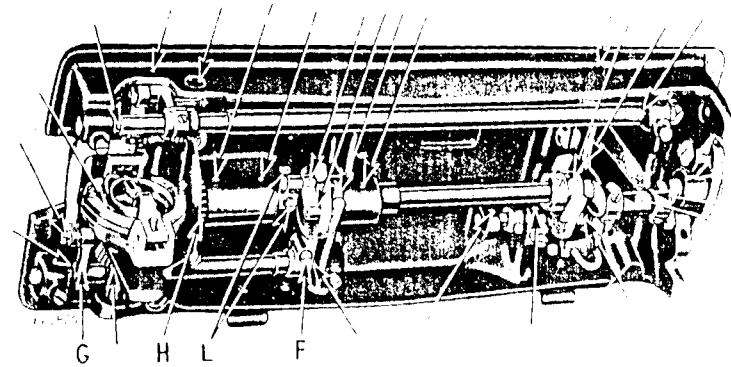

Fig. 4. Oiling Points Underneath Machine
Tip the machine back and turn the machine pulley toward you until the feed dog is at its highest position; loosen screw **F**, see **Fig. 4**, move rock shaft **G**, **Fig. 4** up or down until the feed dog is at the desired height and retighten screw **F**. The feed does not require adjusting except in case of its having become worn or for some unusual kind of work.
**Second**—Tip the machine back and loosen the screws in hook driver shaft crank **L**, see **Fig. 4** at the right of the hook so that the hook can be moved by turning hook driving bevel gear-shaft **H**, **Fig. 4** with the fingers.
**Fourth**—With your fingers turn hook driving bevel gear-shaft **H**, see **Fig. 4** in its regular direction until the point of the hook passes the needle about  $1/4$  inch, then carefully and slowly push the hook backwards until the point of the hook is at the center of the needle and  $3/32$  inch above its eye and fasten screws **L**, **Fig. 4** firmly, provided neither the needle bar nor hook has moved since stationed as directed, as there must be no lost motion between the heel of the hook and the hook driver when the machine stands correctly timed.